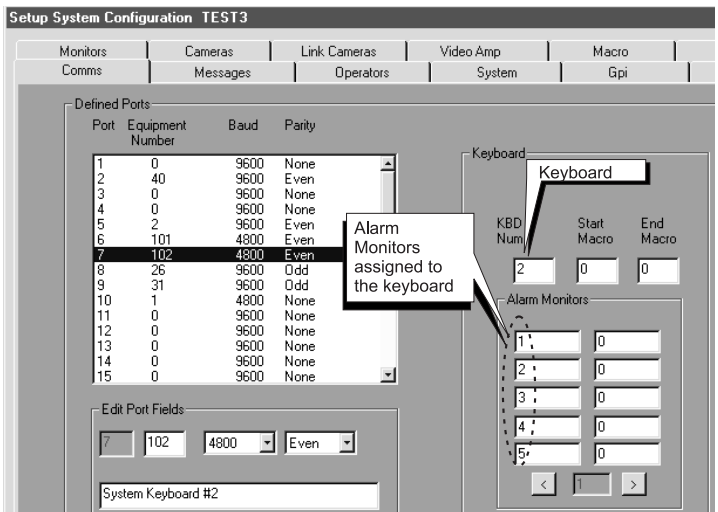

Figure 3-18
- Each keyboard must be assigned Alarm monitors if a visual display of the alarm camera (in addition to keyboard notification) is desired. For example, note that in Figure 3-18, keyboard number 2 is assigned alarm monitors 1 through 5.